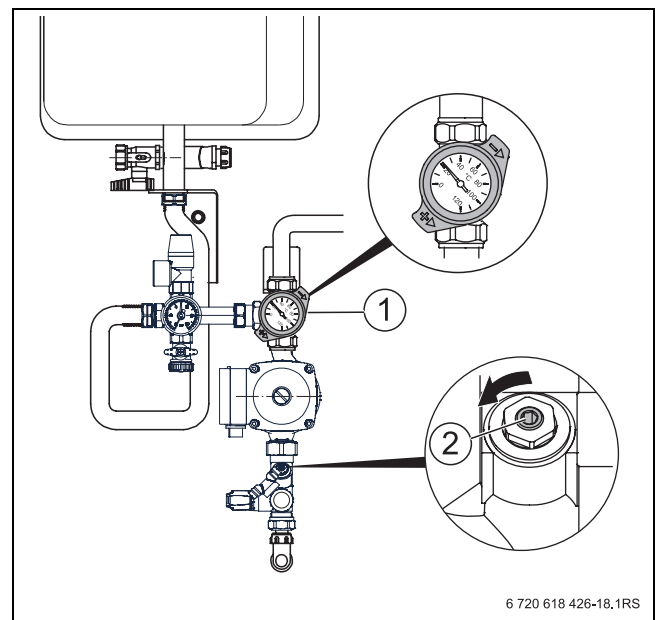

Fig. 22 Opened shut-off devices
- ▶ Set the ball valve (\rightarrow Fig. 22, [1]) on the thermometer to 45° and open the flow limiter (\rightarrow Fig. 22, [2]) and other shut-off fittings.